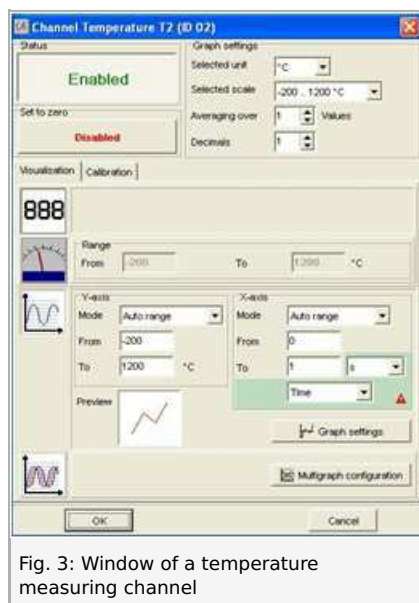

Fig. 3: Window of a temperature measuring channel
- Prior to the start of the experiment, the temperature inputs of the Cobra4 Sensor-Unit Chemistry must be deactivated. To do so, select "Temperature T1" and then "Temperature T2" in the "Navigator" and switch them to "inactive" by deselecting the active field (Fig. 3).